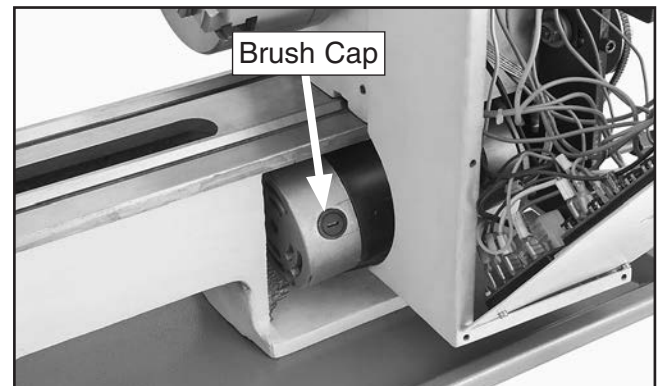

Figure 150. Location of top motor brush cap (Model G0768 shown).
5. Rotate motor to access top motor brush shown in **Figure 150**.